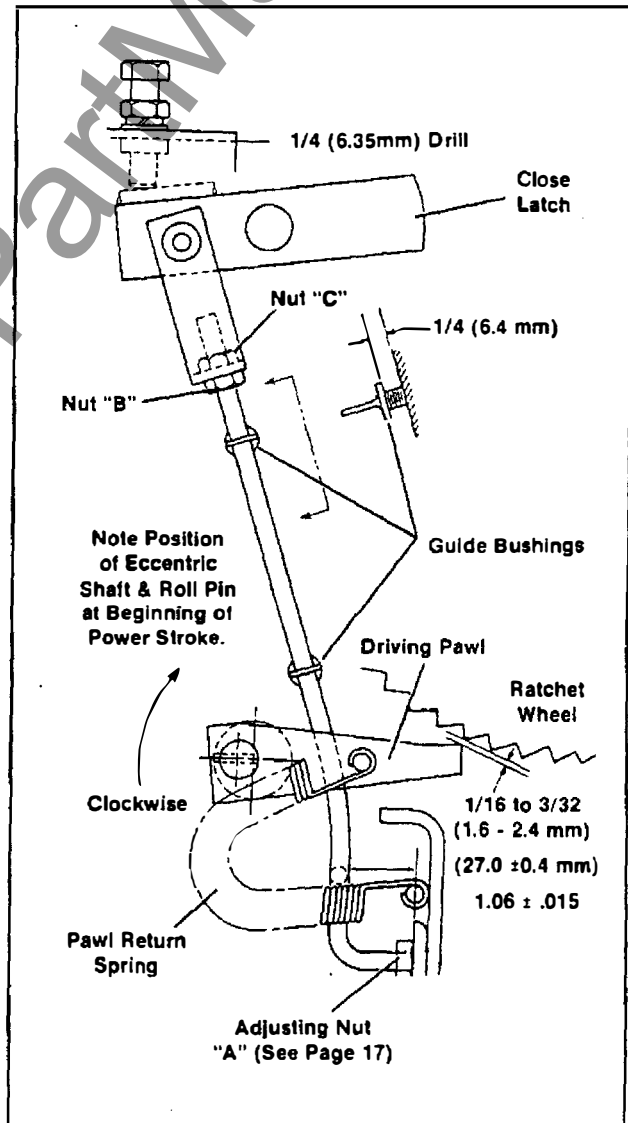

Figure 8. Close Latch Mechanical Interlock
The mechanical interlock (Fig. 8) prevents manual charging of the breaker if the close latch is not adequately reset. A linkage attached by a clevis to the close latch extends down the side of the breaker frame to the driving pawl mechanism. An extension of the interlock's linkage passes above the driving pawl's constant force return spring. If the close latch fails to return to a fully reset position, the linkage extension thrusts the driving pawl's return spring downward preventing the driving pawl's engagement of the ratchet wheel, thus mechanically inhibiting either manually or electrical spring charging.
If the charging ratchet and cams are to be revolved with springs removed, it is advisable to remove two aluminum spring drive blocks (item 38 Fig. 8) secured to the ratchet and cam crankpins by retaining rings. These pins if not removed or held essentially in a horizontal position may jam while revolving the cam and ratchet assembly.